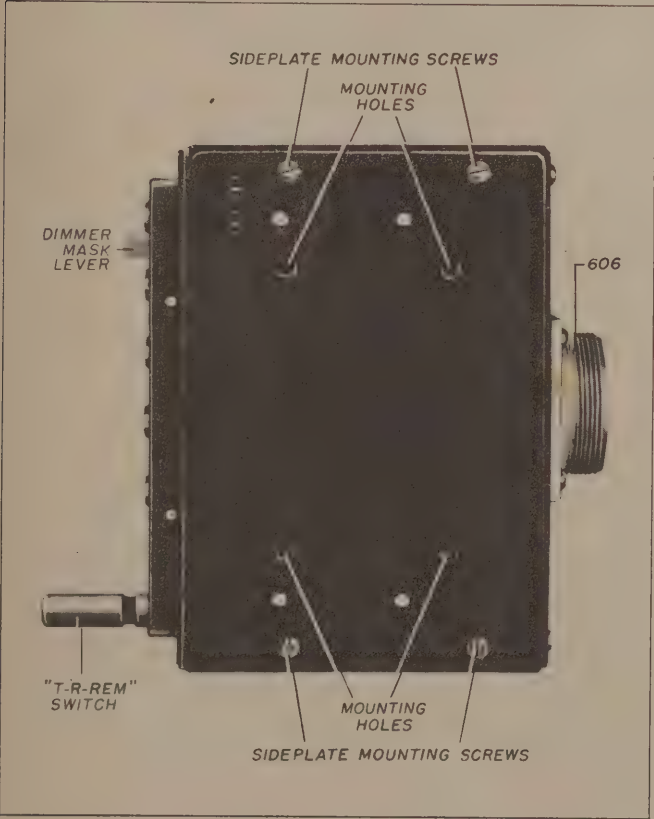

Figure 1-7. Radio Control Box BC-602-B—Side View
(1) The radio control is housed in a metal case and contains four red channel selector pushbuttons, an "OFF" push button, and a "T-R-REM" switch on the front panel.
(2) Indicator lamps are located behind four green jewels to indicate the channel in operation, and a lamp is located behind the white jewel opposite the "T-R-REM" switch to indicate when the equipment is in the receive condition. An adjustable dimmer-mask is provided to reduce the lamp glare.
(3) A 12-contact socket, 606, and a 5-contact socket, 607, are mounted on the rear of Radio Control Box BC-602-A. The 5-contact socket, 607, has been removed from Radio Control Box BC-602-B. (See fig. 1-7.)